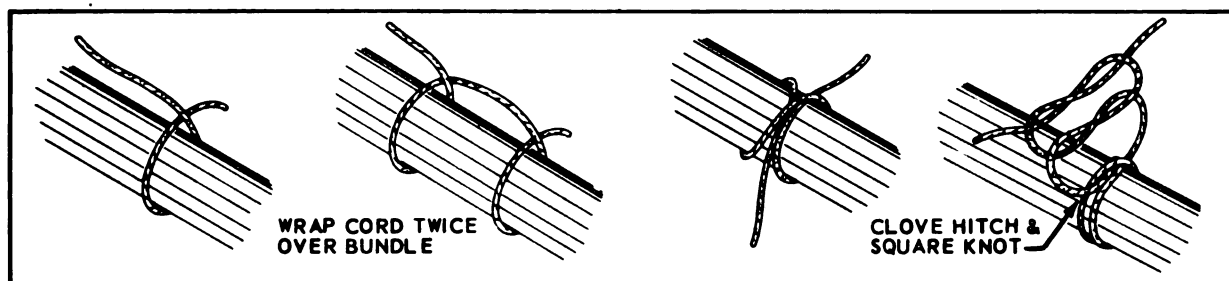

Figure 15-4. Making Ties
a. Wrap cord around wire group or bundle, as shown in figure 15-4.